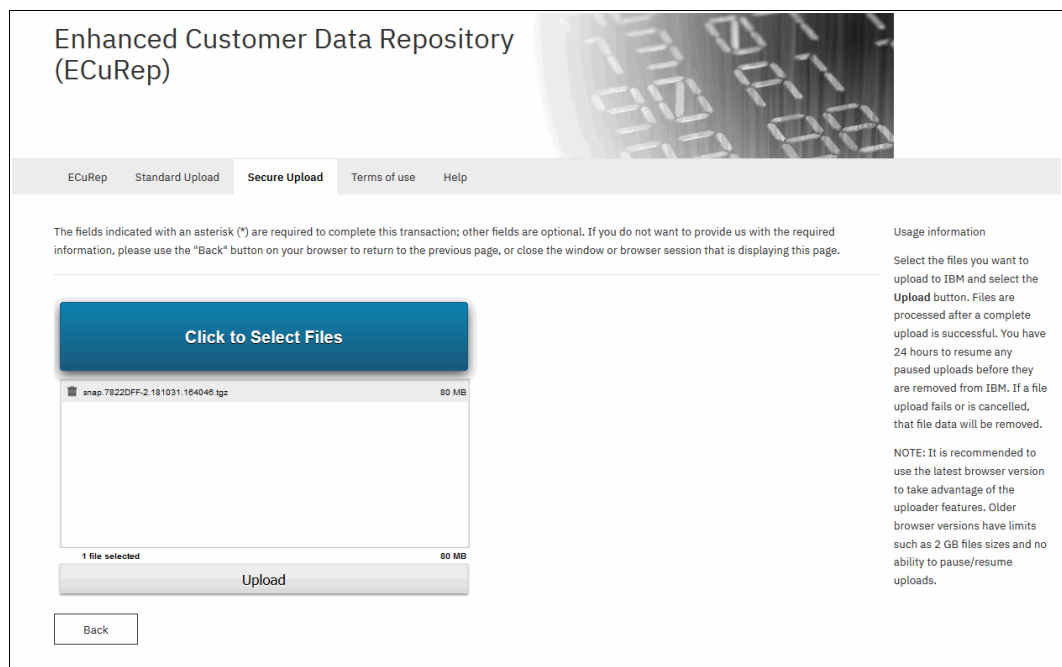

Figure 13-69 ECuRep File upload
3. When the form is completed, click **Continue** to open the input window (see Figure 13-69).